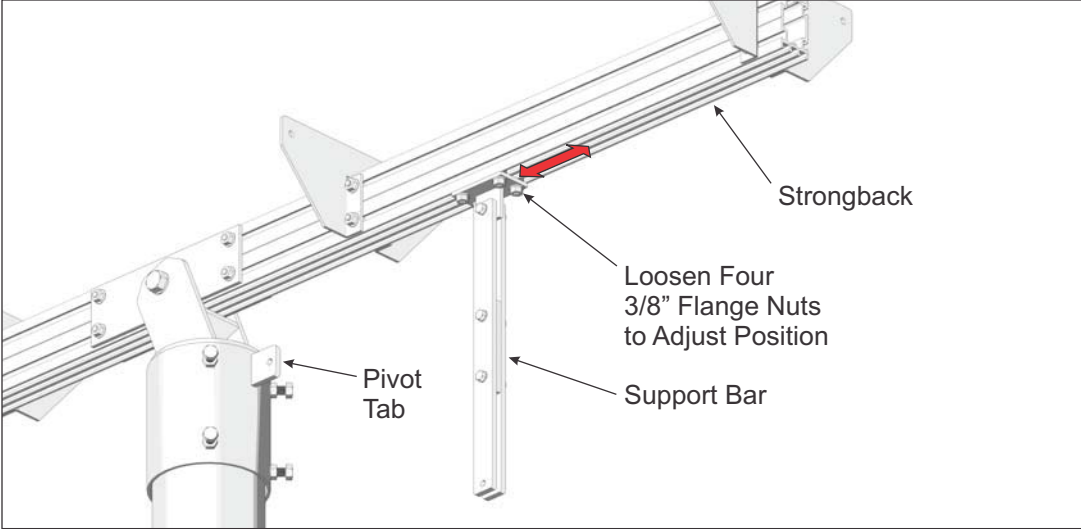

Figure 4-2: Loosening the Support Bar Mounting Tab
- E. First, loosen the four 3/8" Flange Nuts securing the Support Bar Mounting Tab to the Strongback. (See Figure 4-2)